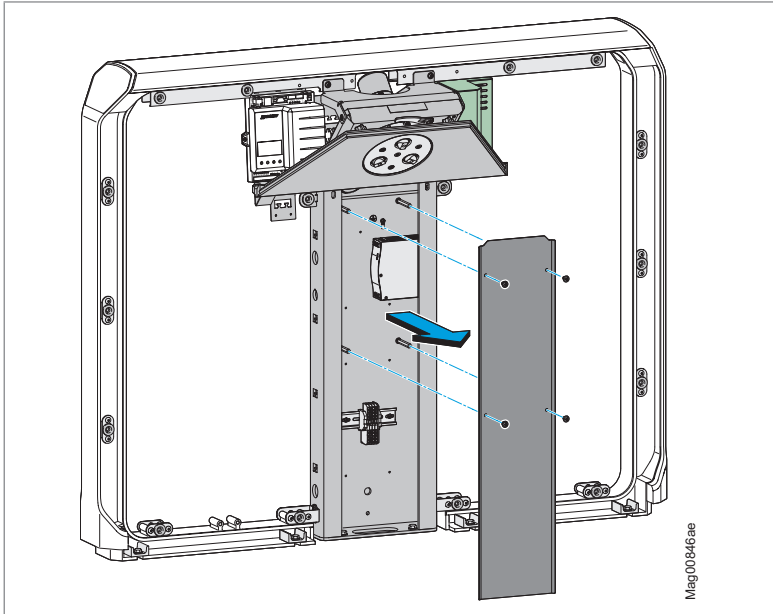

Fig. 8: Disassembly of the cover plate
- 1. Disassemble the cover plate for the base frame. ↗ Page 36, Fig. 8.
1. Disassemble the cover plate for the base frame. ↗ Page 36, Fig. 8.